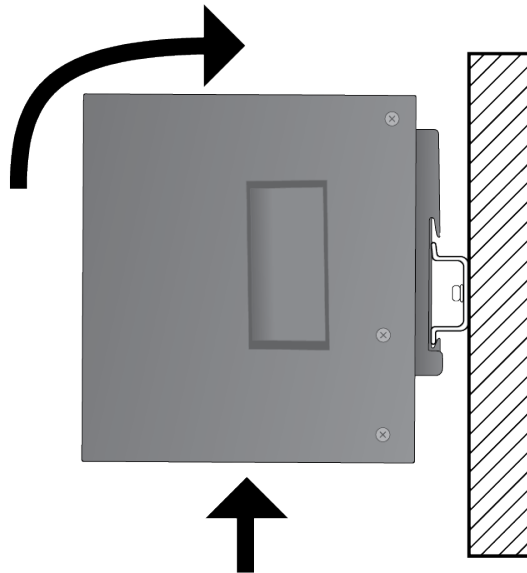

Figure 14. Installing the Switch on a DIN Rail - 2
3. Press upwards on the bottom panel of the switch to compress the springs on the DIN rail bracket, and pivot the switch until vertical. Refer to Figure 14.